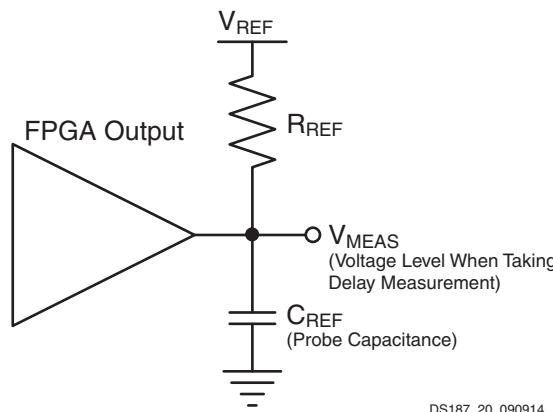
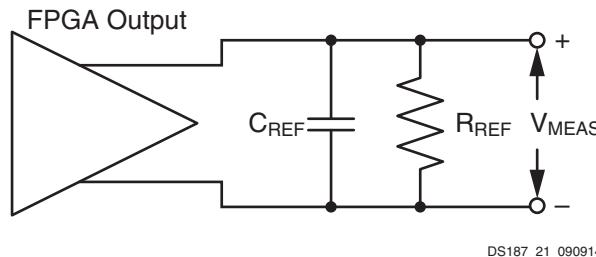

Figure 18: Single-Ended Test Setup
Figure 19: Differential Test Setup
5. This is an input voltage reference that bears no relation to the  $V_{REF}$  /  $V_{MEAS}$  parameters found in IBIS models and/or noted in Figure 18.
Output delays are measured with short output traces. Standard termination was used for all testing. The propagation delay of the trace is characterized separately and subtracted from the final measurement, and is therefore not included in the generalized test setups shown in Figure 18 and Figure 19.